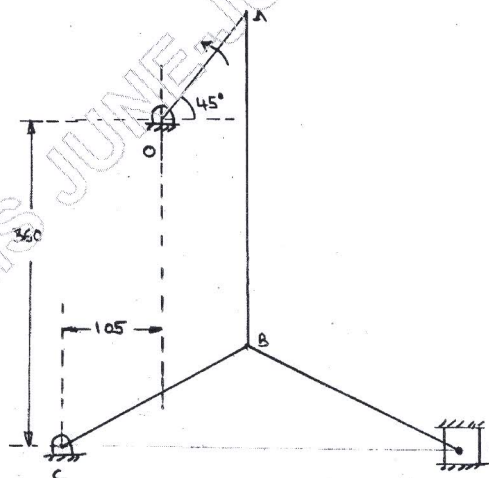

Fig. Q4
- 4 In the toggle mechanism shown in Fig. Q4, the slider  $D$  is constrained to move in a horizontal path. The crank  $OA$  is rotating in CCW direction at a speed of  $180$  rpm. The dimensions of the various links are as follows:  $OA=180$  mm,  $CB=240$  mm,  $AB=360$  mm,  $BD=540$  mm. Find:(i) Velocity of slider. (ii) Angular velocity of links  $AB$ ,  $CB$ ,  $BD$  using instantaneous centre method. (20 Marks)